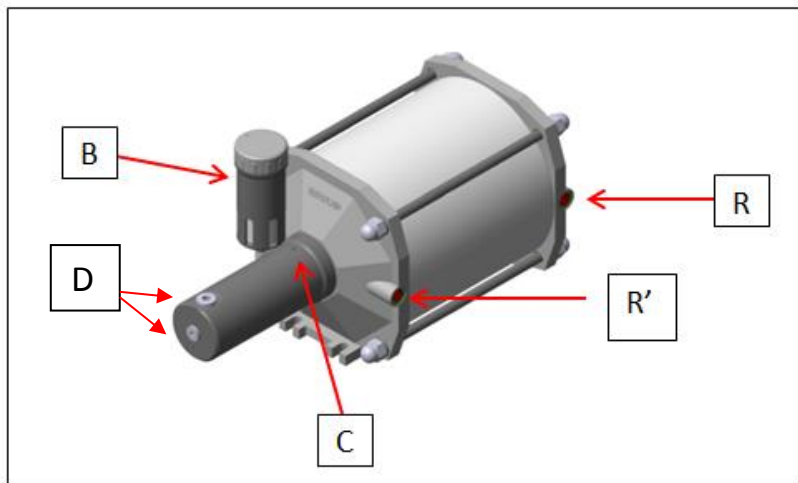

Fig.1
- IMMETTERE ARIA NEL CIRCUITO PNEUMATICO DALL'ENTRATA "R" (FIG. 1) ; REGOLANDO CON "FRL" LA PRESSIONE DELL'ARIA IN ENTRATA E' POSSIBILE VARIARE LA PRESSIONE DELL'OLIO IN USCITA.
- **IMPORTANTE: ASSICURARSI CHE IL TAPPO DEL SERBATOIO "B" (FIG. 1) SIA SEMPRE MONTATO SUL SERBATOIO, ONDE EVITARE CHE ENTRINO AGENTI ESTERNI DURANTE IL CICLO, ES.: TRUCIOLI DI LAVORAZIONE, SMERIGLIO, ECC.,**
- THE MULTIPLIER IS ACTIVATED BY PUMPING AIR INTO THE PNEUMATIC CIRCUIT THROUGH THE INLET "R" (FIG. 1); OUTPUT OIL PRESSURE CAN BE VARIED BY ADJUSTING THE INLET AIR PRESSURE USING "FRL" GROUP
- **IMPORTANT: CAP ON TANK "B" (FIG.1) ALWAYS MUST BE POSITION ON THE TANK, TO AVOID ANY DIRT GOES INSIDE DURING WORKING, EX.: SWARFS, GRIND, ETC. ENTERING INTO THE CIRCUIT, IT CAN RUINS GASKETS!**